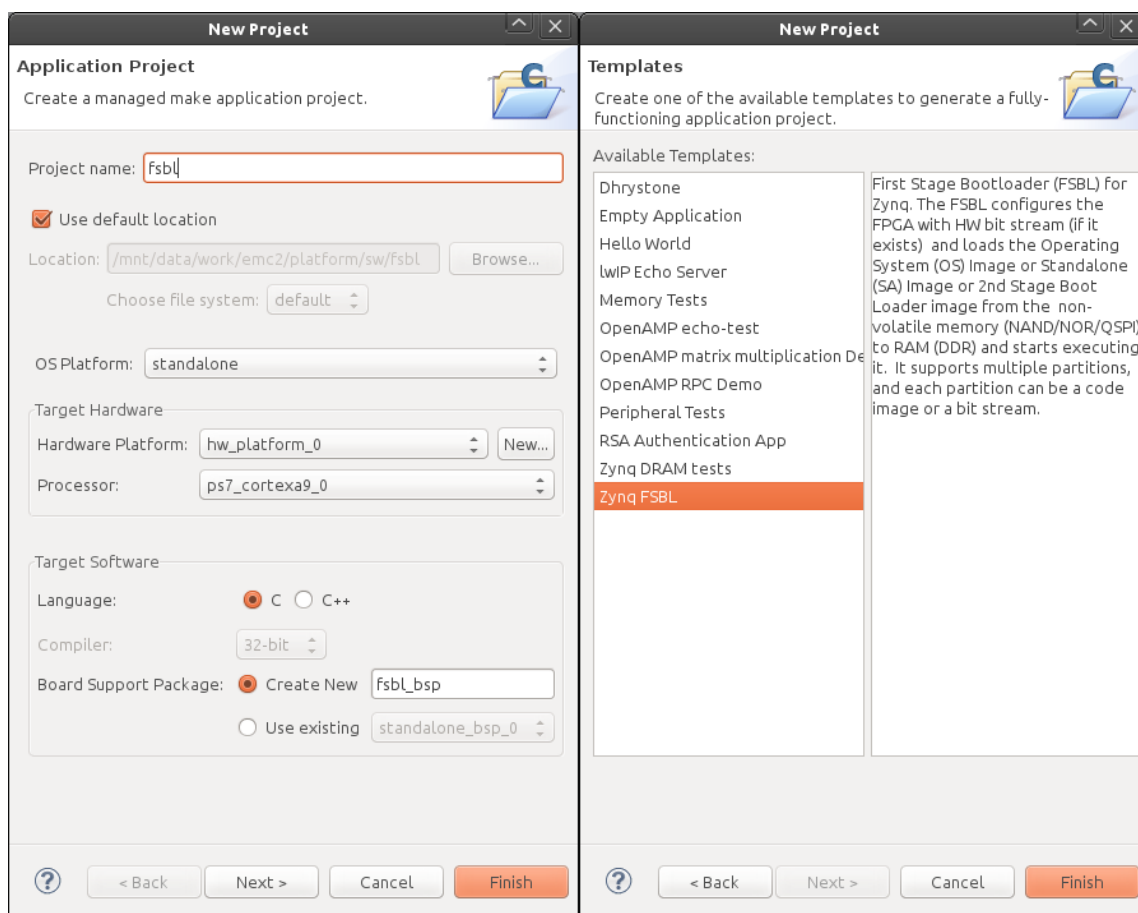

Figure 6: Create FSBL.
4. Create first stage boot loader (FSBL), menu *File→New→Application Project*, set project name to *fsbl*, select OS platform as *standalone*, set hardware platform to *hw\_platform\_0*, set CPU to *ps7\_cortex9\_0*, check *create new* in board support package selection, let BSP name *fsbl\_bsp*. Click on Next button. Select *Zynq FSBL* template and click *Finish* (Figure 6).